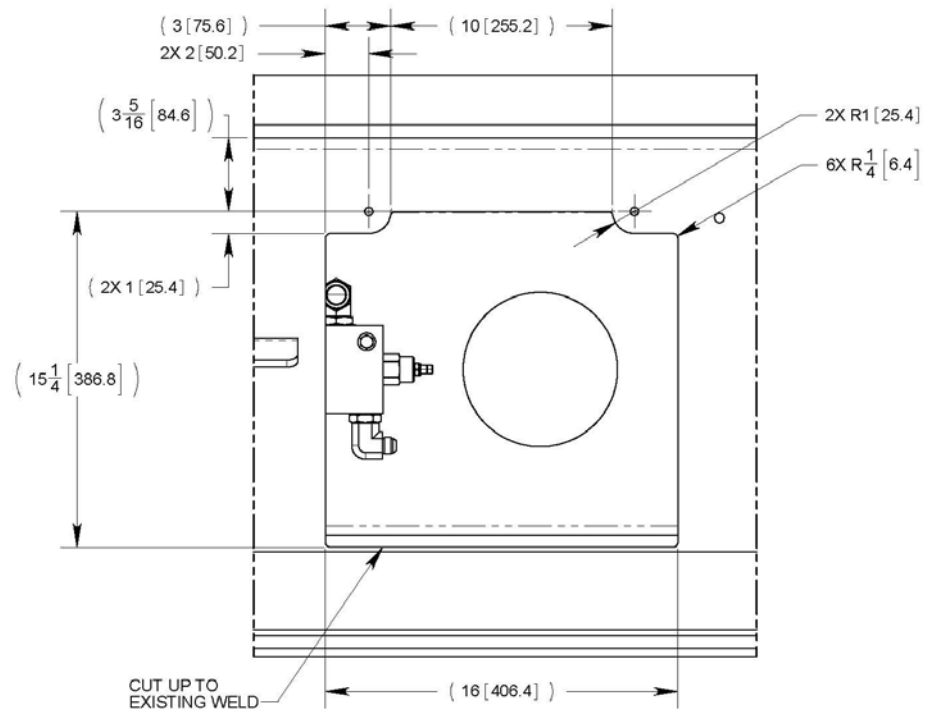

Figure 4
Step 8: Cut-out cooler intake hole as defined in Figure 4. Measurements below are in (inches [mm]).